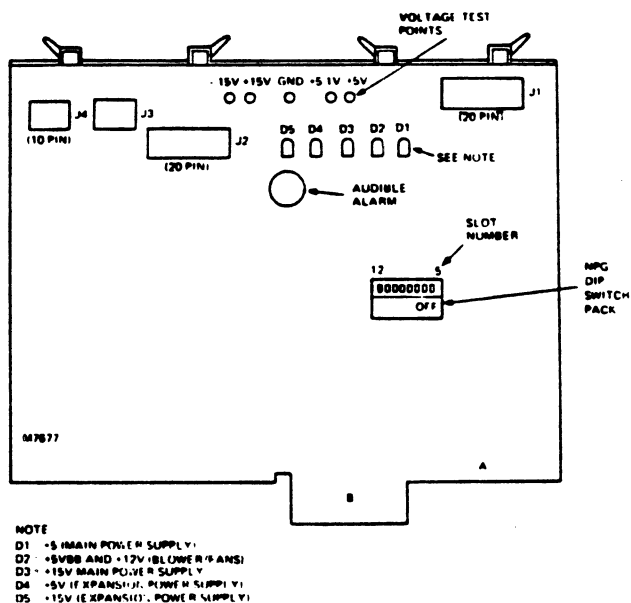

FIGURE 5-9 MDM MODULE LAYOUT
Figure 5-9 shows the location of the MDM module LEDs and test points. LEDs D1 through D5 each monitor one or two power supply voltages. Loss of a voltage turns the associated LED off.
- b. If the MDM is the suspected problem, check the voltage test points and the NPG switch pack configuration prior to module replacement. (See Figure 5-9.)
- e. The setting of the NPG (non processor grant) select switch pack is used to select NPG status. Each NPG switch corresponds to a CPU backplane slot 5 through 12. Figure 5-9 shows the location and slot number of the each NPG switch.